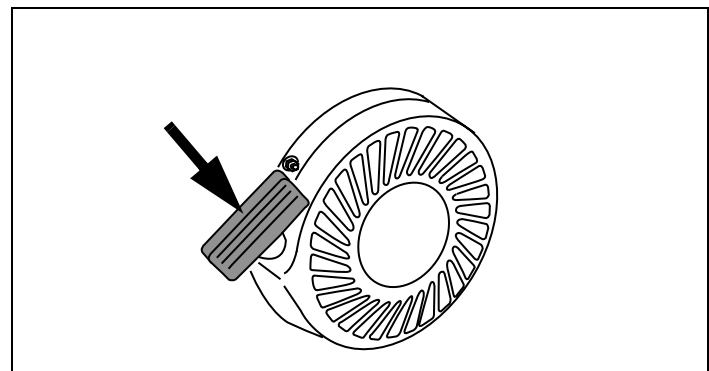

Figure 30. Starter Cord Handle
4. Grasp starter cord handle. See Figure 30.
4. Grasp starter cord handle. See Figure 30 on page 15.